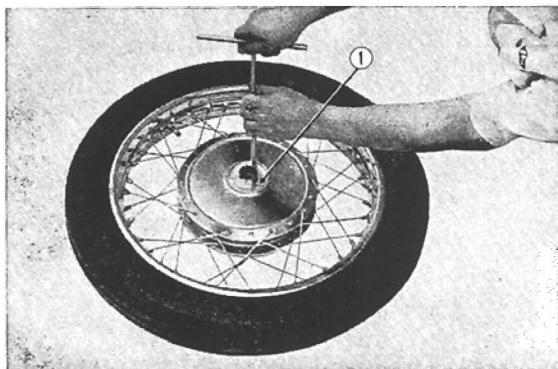

Fig. 4.76 Removing the bearing retainer
6. Remove the panel, bearing retainer, two 6302 Z ball bearings, front axle distance collar and disassemble the front wheel hub. (Fig. 4.76)